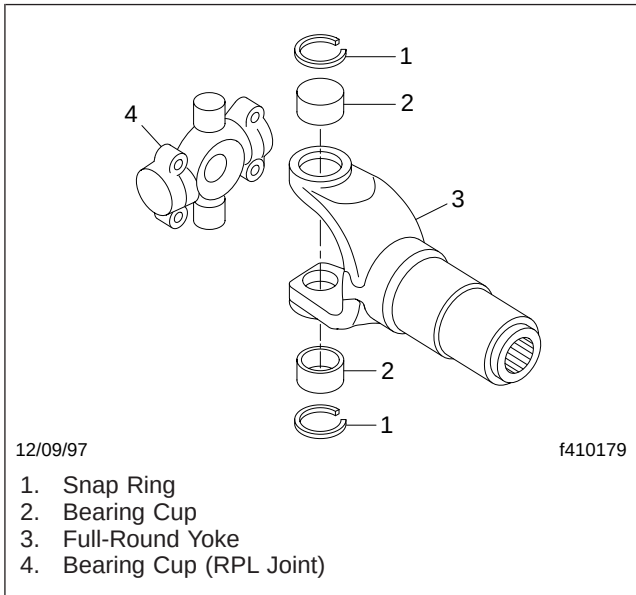

Fig. 4, RPL U-Joint Components
3. Remove and discard snap rings. See Fig. 4.